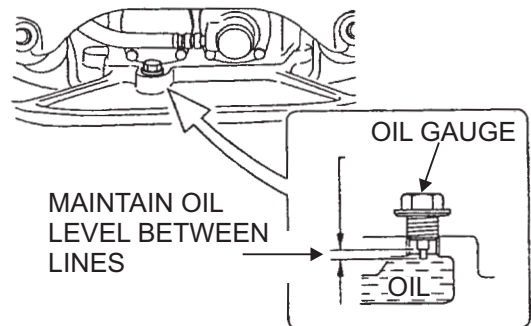

Figure 5. Vibrator Oil Gauge
2. Check vibrator oil level by removing bolt (vibrator oil gauge) as shown in Figure 5. Use a 14 mm wrench to remove bolt. The vibrator oil level should be maintained between the two markings as shown in Figure 5. If oil is required, replace using SAE 10W-30.